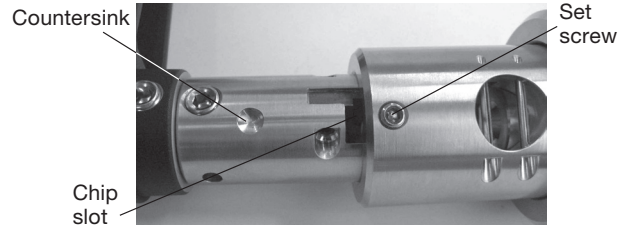

Fig. 8 Aligning the chip slots with the 1/4 in. set screws (second set screw is on opposite side)
5. Align the blade holder chip slots with the 1/4 in. set screws in the housing. (Fig. 8)
7. Tighten the two 1/4 in. set screws while making sure they engage with the countersinks in the blade holder. (Fig. 8)